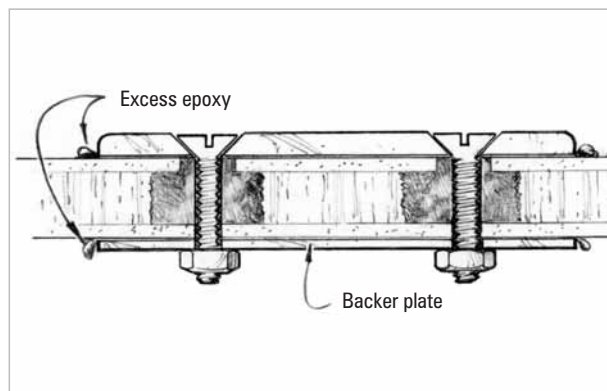

Figure 7-4 Tighten the nuts until epoxy begins to squeeze from the sides of hardware item and backing plate.
10. Place the backing plate over the bolts in position against the inner side of the panel. Tighten the nuts until epoxy begins to squeeze from the sides of the hardware item and backing plate (*Figure 7-4*). Do not over-tighten the fasteners. Clean away any squeezed out epoxy mixture with a chisel-shaped mixing stick and remove the masking before the epoxy begins to gel. Tighten the nuts completely after the epoxy cures thoroughly. Allow the epoxy to cure at least 24 hours before applying load to the hardware. Allow more time in cool weather.